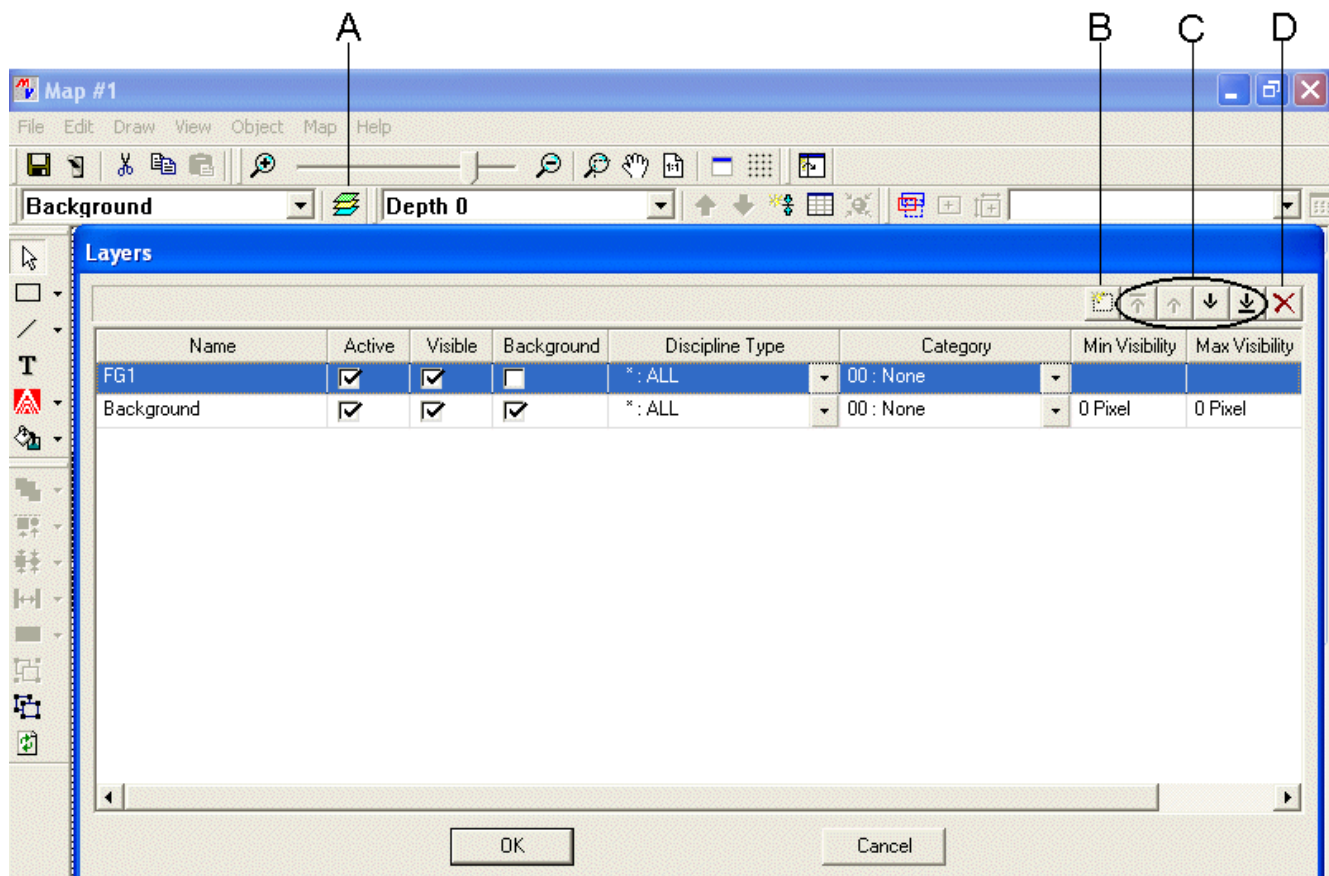

Fig. 6 Create a new layer
1. Select the Edit Layers icon  to open the Layers window (see Fig. 6)